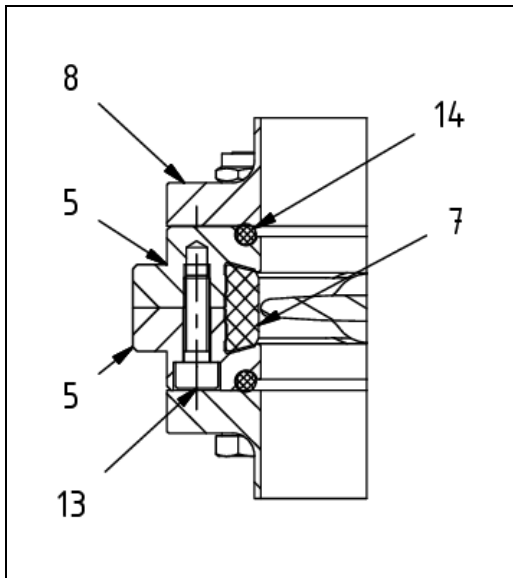

Fig. 6.2: Screw Fitting of the Inner Flange(1)
- Insert the O-rings (Fig. 6.2, item 14) into the groove in the inner flange (Fig. 6.2, item 5).
- Position the valve between the outer flanges (Fig. 6.2, item 8). When doing so, make sure that the holes in the outer flange are aligned with those in the pre-installed valve.